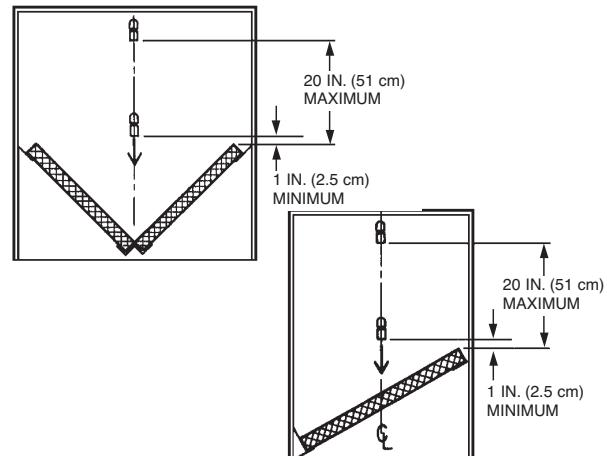

FIGURE 7
**Option 1:** The 1W nozzle must be on the center line of the single or “V” bank filter and positioned within 1-20 in. (2.5-51 cm) above the top edge of the filter. See Figure 7.